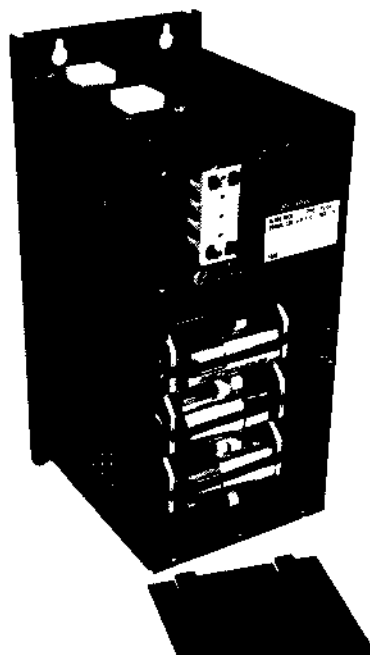

Figure 17 PS11, 21, 41, 51 Battery Cover Plate Removed
- 3a. For Type PS11, 21, 41, and 51 Power Supplies, remove the battery tray cover plate. See Figure 17.